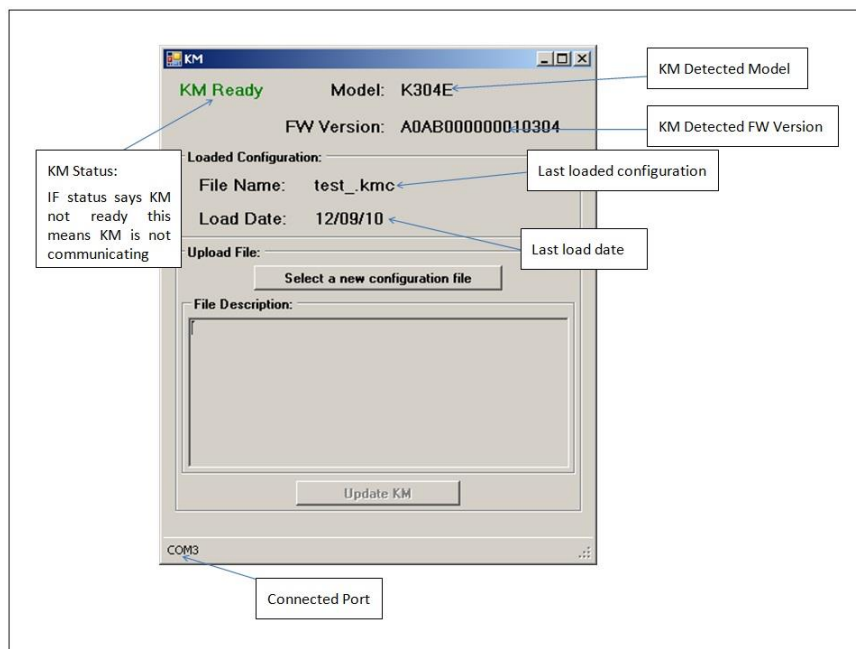

Figure 1 – KM Loading Utility capture – before selecting a file
- Once the KM is connected with the loading utility correctly the utility GUI will indicate “KM Ready” and the connected port will also appear as seen in figure 1 of this document.